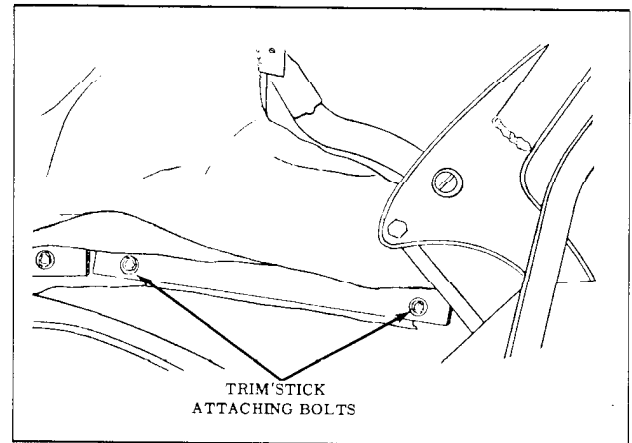

Fig. 15-86 Rear Quarter Trim Stick
6. At each rear quarter area remove attaching bolts and washer securing rear quarter trim stick assembly to rear quarter inner panel. (Fig. 15-86)